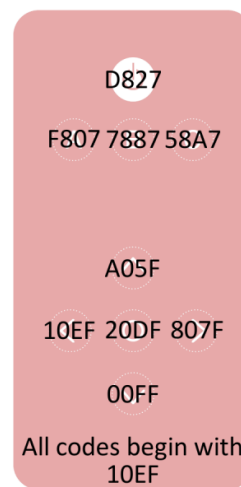

Figure 4: Remote codes
You are going to use the oscilloscope to capture the output of the IR receiver and check that the remote is sending out the expected codes. The expected values can be seen in figure 4
- Check that your result matches the button you pressed by comparing it to figure 4
- Open the serial monitor. Point the remote at the sensor and push each button in turn. Check the hex value in the serial output against figure 4.
Q. Do all the values agree with the labels in figure 4?